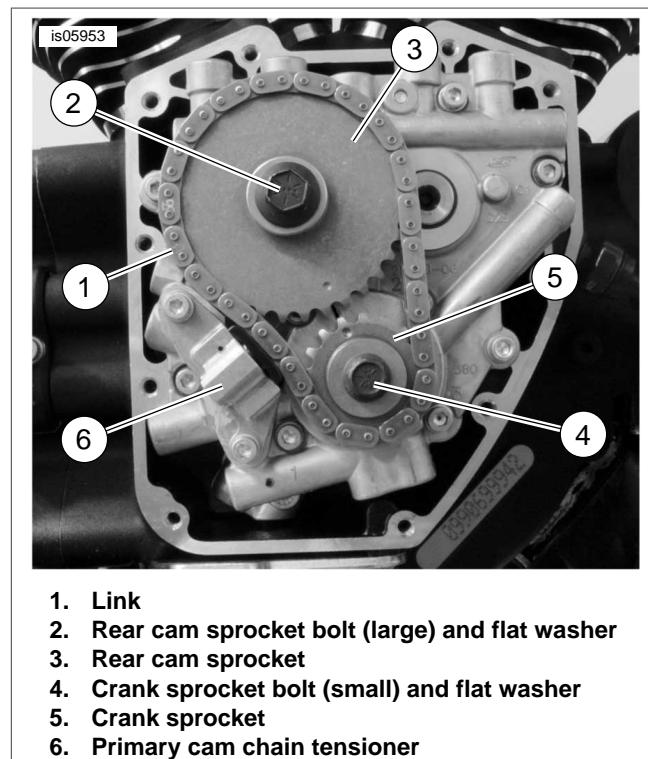

Figure 7. Cam Support Plate Assembly
21. Install the correct style primary cam chain, as noted in step 20. See Figure 7.
22. Install the primary hydraulic tensioner (6). Tighten the fasteners to 90-120 **in-lbs** (10.2-13.6 Nm). Remove the locking clip from the tensioner.